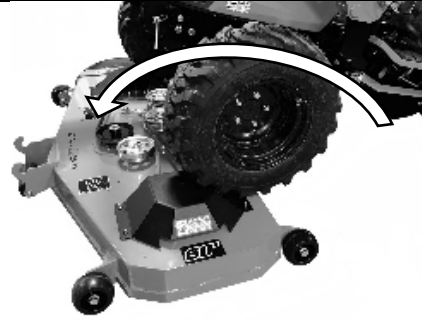
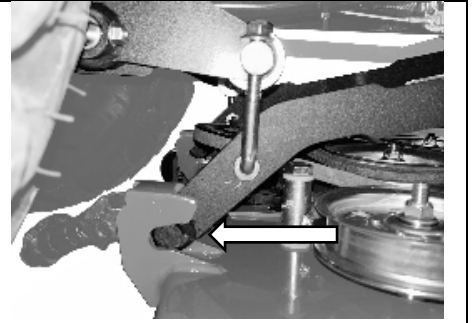

Figure 5C
Figure 6C
5. Carefully drive the tractor over the deck as indicate in figure 5C. 2x4's can be used as step-ups to get the front wheels on to the mower deck surface. Keep the front wheels on the pulley covers while driving over the deck. Ease forward enough that the rear of the lift bars rest in the hooks located on the rear of the mowing deck (figure 6C).